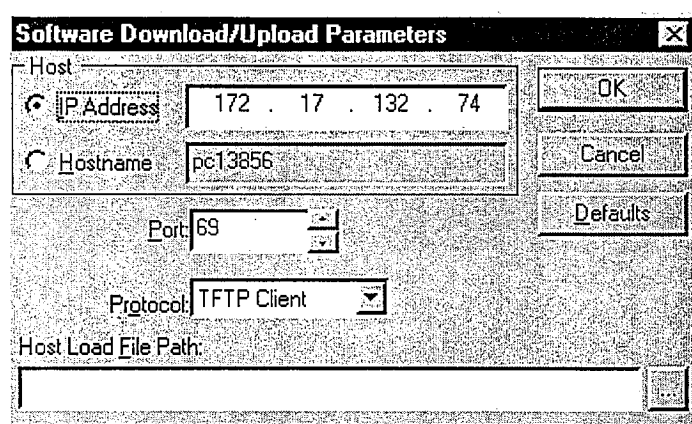

Figure 39. Software Download/Upload window
6. Click the **Download** button to the right of the List of Controllers pane. The Software Download/Upload Parameters window appears (see Figure 39).